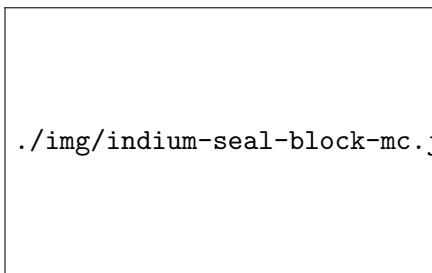

Figure 5.15: Aluminium block to press indium onto MC sealing surface (IVC block not shown).
4. Wrap the wire around the proper aluminum setting tool (Figure 5.15 for MC).